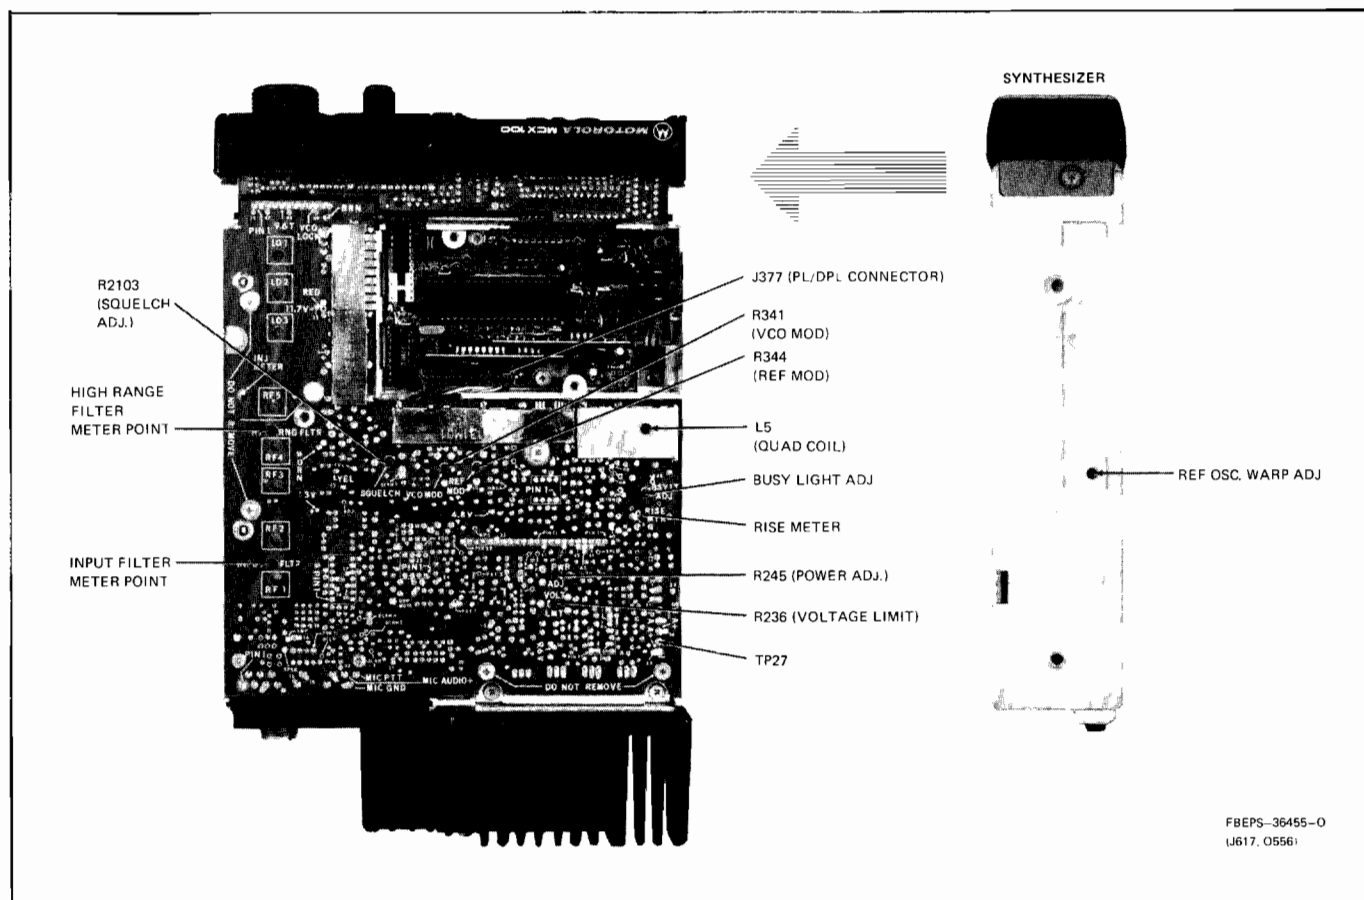

Figure 5. MXC100 Radio Alignment Test Points
3.3 OSCILLATOR FREQUENCY ADJUSTMENT (See Figure 5.)
3.4 RECEIVER ADJUSTMENTS (Refer to Figure 5 for adjustment locations.)
Refer to Figure 5 for the various test points referred to in the following procedure.